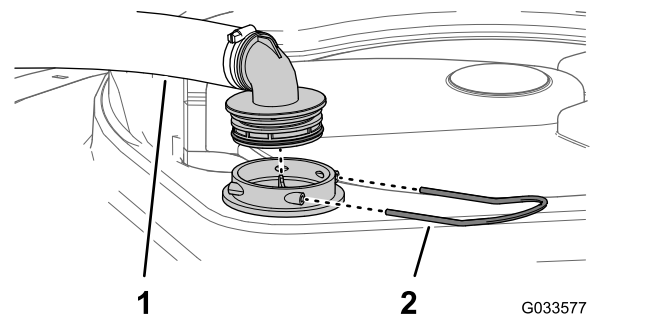

Figure 46
- At the top of the sprayer tank, remove the retainer that secures the hose fitting attached to the large hose from the filter housing (Figure 46).
3. Remove the hose and hose fitting from the filter housing (Figure 46).